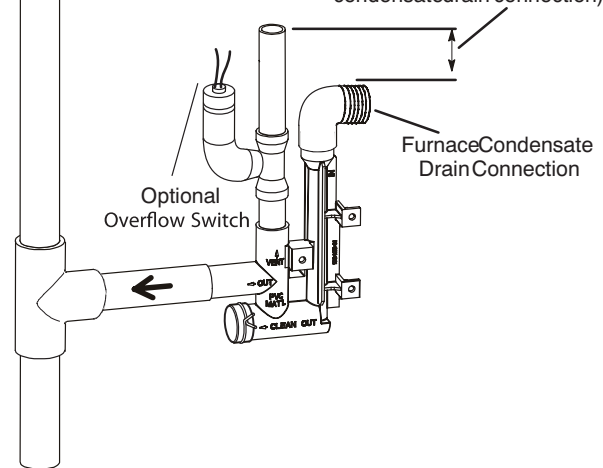
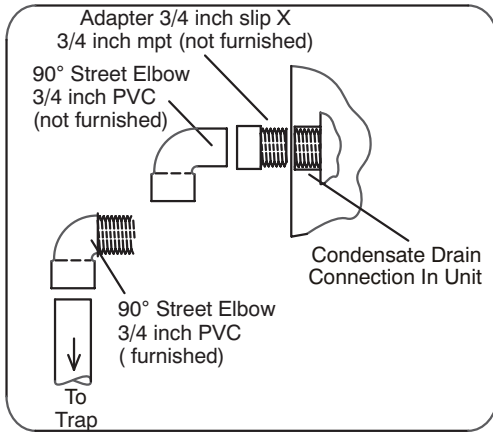

Figure 50
**Figure 53**
- 5 - Figure 49 and Figure 51 shows the furnace and evaporator coil using a separate drain. If necessary the condensate line from the furnace and evaporator coil can drain together. See Figure 50, Figure 52, and Figure 53. **Upflow furnace (Figure 52)** - In upflow furnace applications the field provided vent must be a minimum 1" to a maximum 2" length above the condensate drain outlet connection. Any length above 2" may result in a flooded heat exchanger if the combined primary drain line were to become restricted. **Horizontal furnace (Figure 53)** - In horizontal furnace applications the field provided vent must be a minimum 4" to a maximum 5" length above the condensate drain outlet connection. Any length above 5" may result in a flooded heat exchanger if the combined primary drain line were to become restricted.